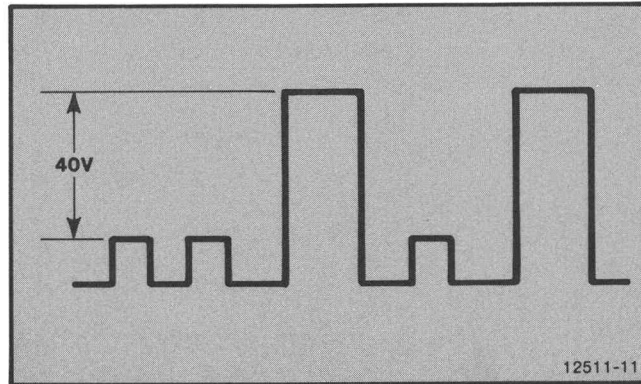

Figure 4-11. Normal Intensity Waveform.
4. **Adjust** R716 to 40 V measuring from the top of the small pulses to the top of the large pulses. See Figure 4-11.